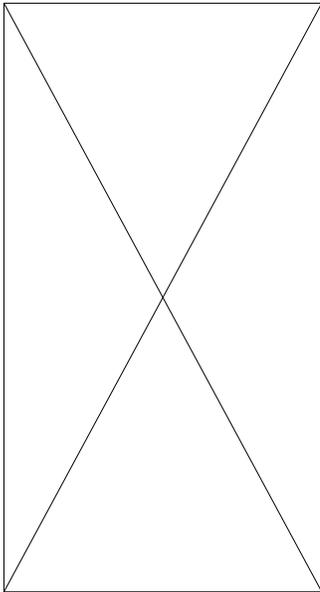

Figure 7-5. Data Memory Configuration
There are 256 bytes in the data memory. The data memory is configured as two register banks, an 8-level stack, and user RAM spaces. Each register bank has eight (8) registers. All memory spaces can be indirectly addressed by the micro-controller through R0 and R1 of the two register banks. Only the registers in the two register banks can be directly addressed by the micro-controller. Each level of the 8-level stack occupies two (2) bytes of memory, thus the stack takes sixteen (16) bytes. The memory spaces from 032 to 255 are reserved for users. Please refer to Figure 7-5.